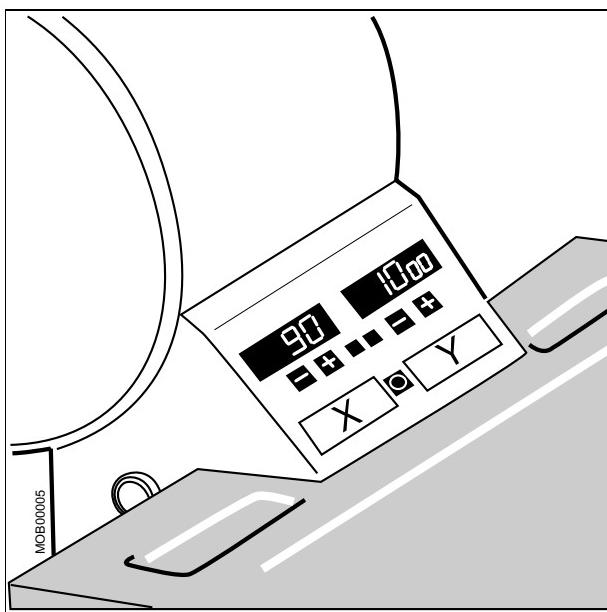

Fig. 1
- Mount warning label 60 77 411. Choose appropriate language version and paste it/them on the Control and display panel according to X, Y / Fig. 1.